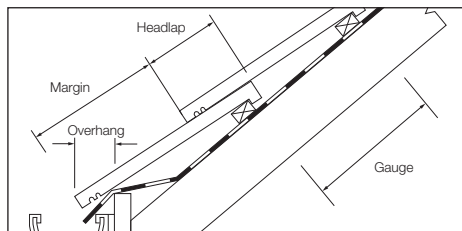

Fig. 10 – Typical layout at eaves
- 2 Eaves tiles should lie over the fascia board 50mm on the rake (Fig. 10).